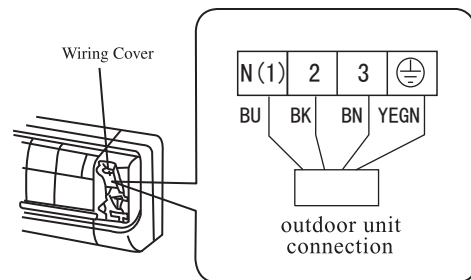

Fig.6
- Remove the wiring cover Fig 6.